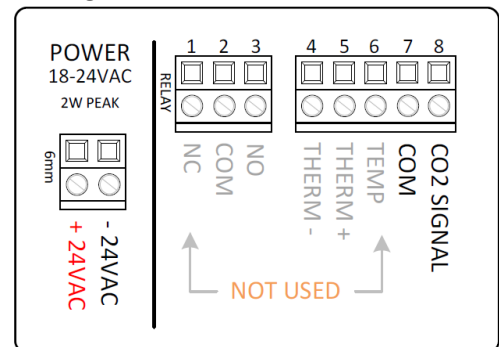

Figure 3. Internal (back plate) wiring detail.
- a. Verify that the wires are terminated correctly inside the sensor and at the Flō controller. See figure 3.